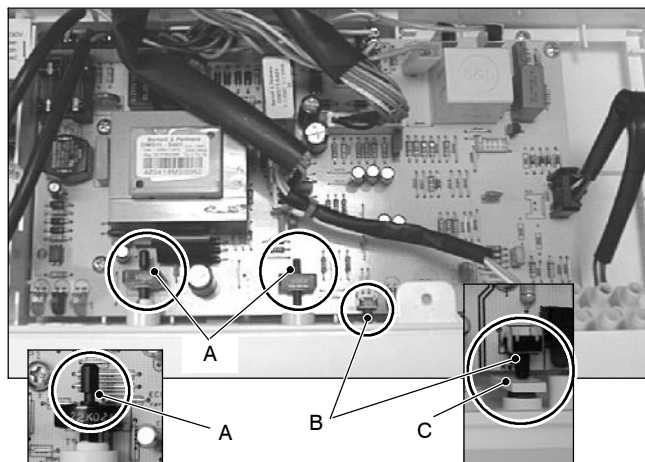

Fig. 49
- 8 Insert the spindles in the control panel knobs until the notch A (Fig. 49) reaches the potentiometer edge. It is not necessary to force them in the knob.
- 9 While tightening the screws that fix the Electronic control/ignition p.c.b. on the control panel, keep the p.c.b. towards the control panel fascia making sure of the contact between the boiler reset button *B* and the tab *C* (Fig. 49).